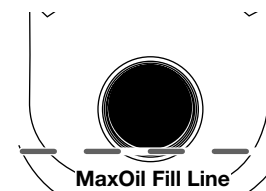

Fig. 27
- Look into the oil fill hole, use a flashlight if needed. The oil should be just touching the inner most thread (Fig. 27).
- If the oil level is not touching the inner most thread on the oil fill hole, add a small amount of oil to the oil fill hole and recheck (Fig. 27). Repeat this procedure until the oil level reaches the inner most thread on the oil fill hole.